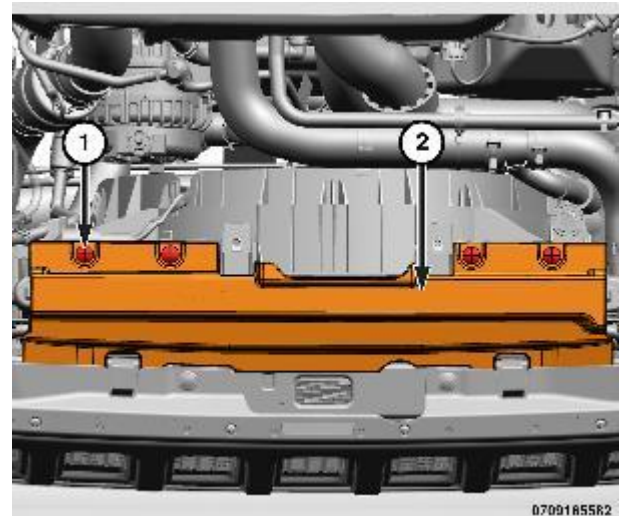

Figure 93 – Upper Radiator Seal
6. Remove the push pins retainers (1) and upper radiator seal (2) (Figure 93).